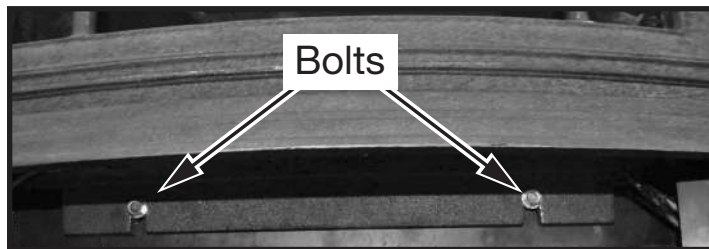
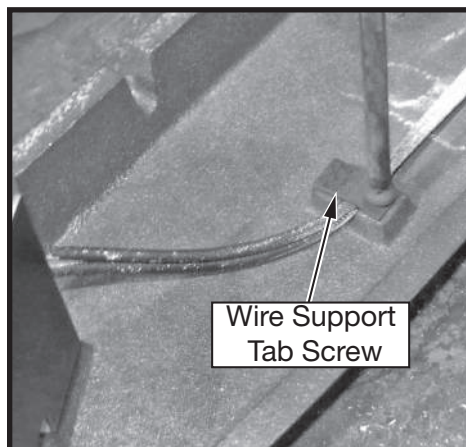

Figure 18: Bolts securing ash lip to firebox.
Figure 19: Wire Guides.
3. Loosen the two bolts that secure the ash lip to the firebox (Figure 18), carefully lift up the ash lip and remove from the firebox and unscrew the wire support tabs (Figure 19) noting how the wire are held in place.